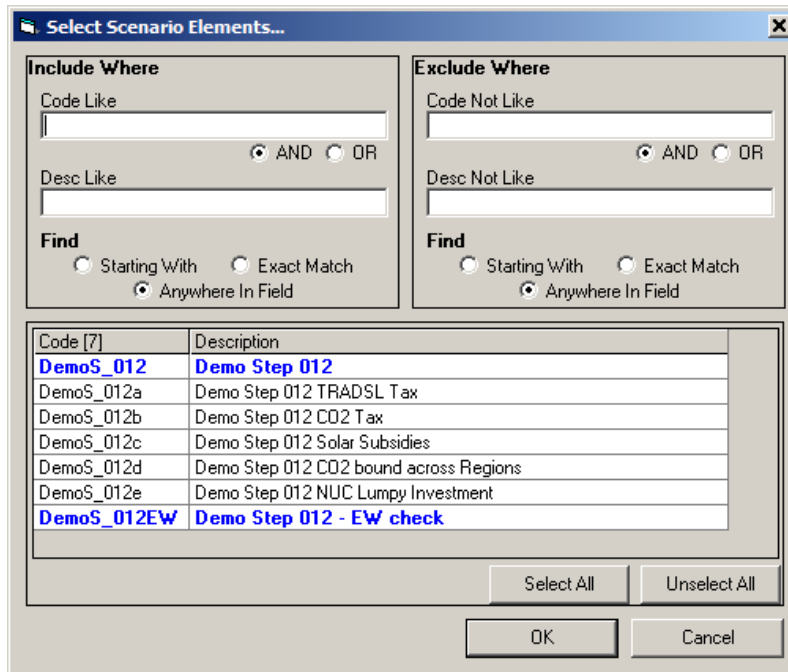

Figure 17: Selecting scenarios for a global filter
- Option 2: right click anywhere within the scenarios list, and choose **Global Filter** from the menu that appears. This brings up the selection window shown in Figure 17. Here you may select individual scenarios by clicking on them (turning them **bold blue**), filter scenarios by code or description, and **Select** or **Unselect All** from the filtered list.